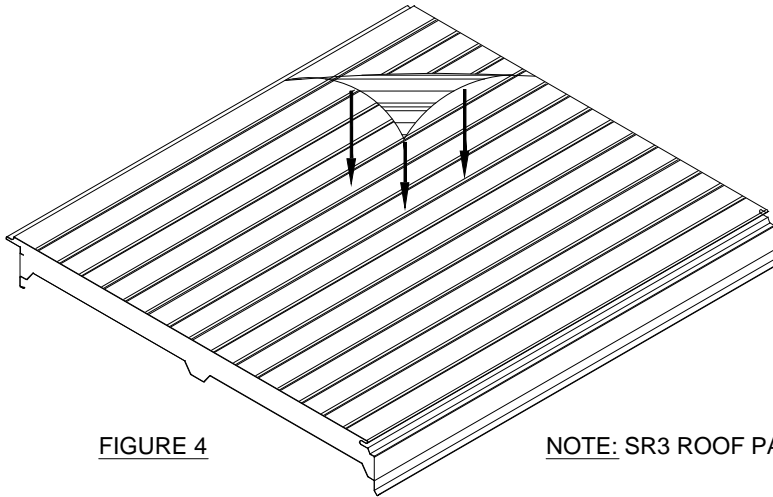

FIGURE 4
- 8.4 REMOVE THE PROTECTIVE PLASTIC FILM FROM THE PANEL CORNER AND PULL OFF AT A 45° ANGLE. THIS IS THE BEST WAY TO REMOVE THE FILM. (SEE FIG. 4)